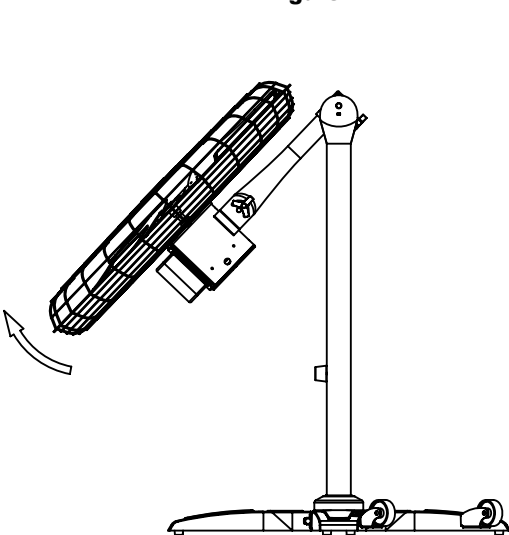

Figure 7
6. Lift up the fan head till you hear a clip/snap sound and stop. (Figure 7)